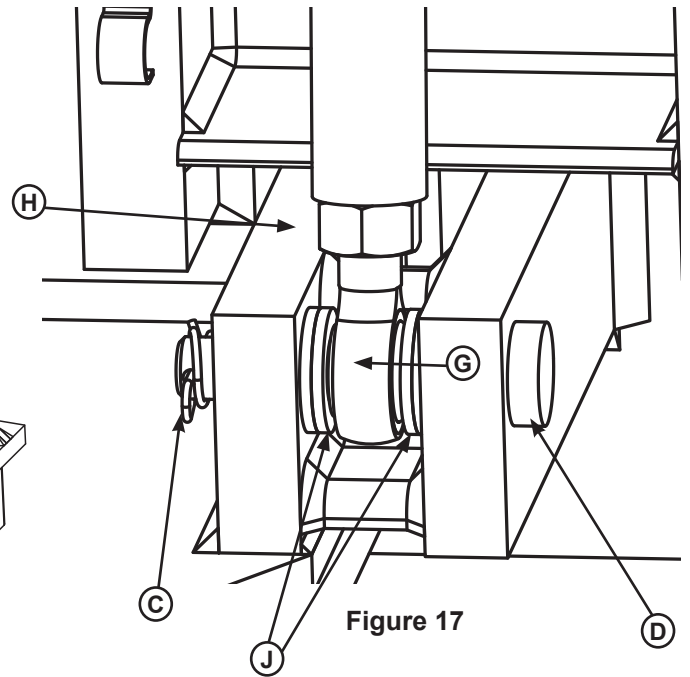

Figure 17
4. If connected, remove the rue clip (**C**) and disconnect the lower hoist cylinder mounting pin (**D**). See Figure 17.
d. Install washers (**J**) between rod eye sides and trunnion to limit rod eye movement, and lock rue clip (**C**) into place as shown in Figure 17.